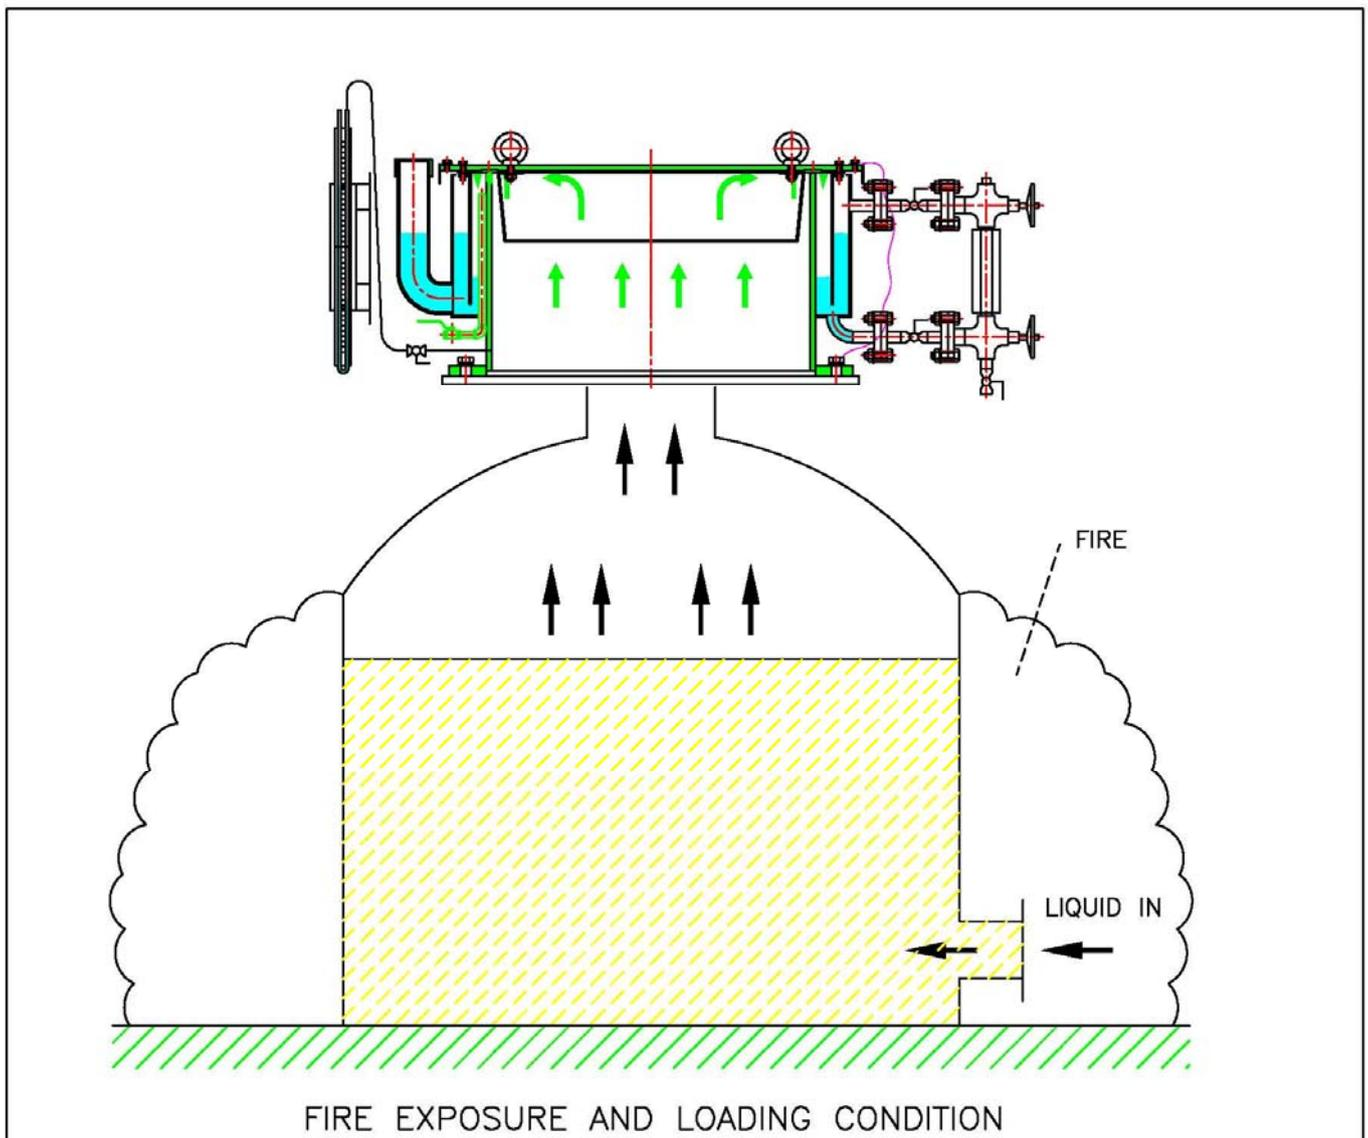

Figure 3.
- 3-1 When the tank is loading phenomena and external fire and the pressure is above the setting (Operational Fixing pressure), the model KSEPW operate automatically to protect the storage tank from inflation (Figure 3).